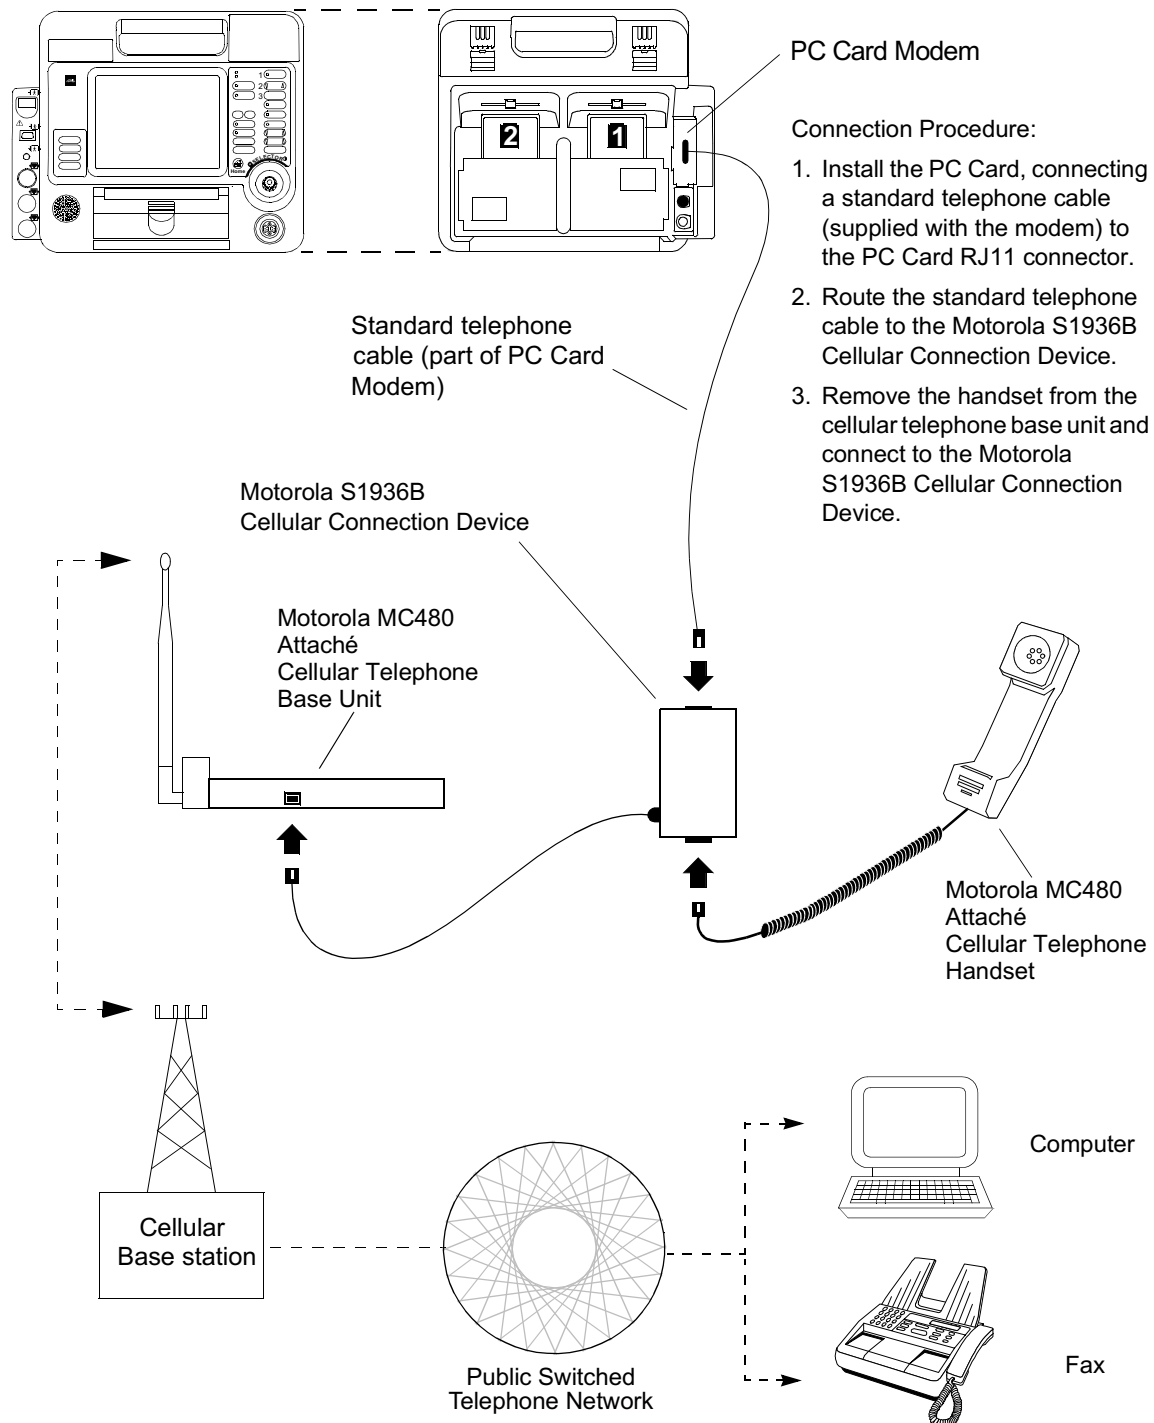

**Figure 6-3** Equipment Connections for Internal Modem – Analog Cellular
- **Internal Cell** Transmit reports by analog cellular telephone using an internal PC Card modem. Requires the following for interconnection (see Figure 6-3):
Figure 6-3 shows you the equipment connection method for transmitting reports by analog cellular telephone using an internal PC Card modem. If you want to use an analog cellular telephone other than the recommended Motorola model, contact your Physio sales or service representative to confirm compatibility. For international equipment connections, see Appendix F.